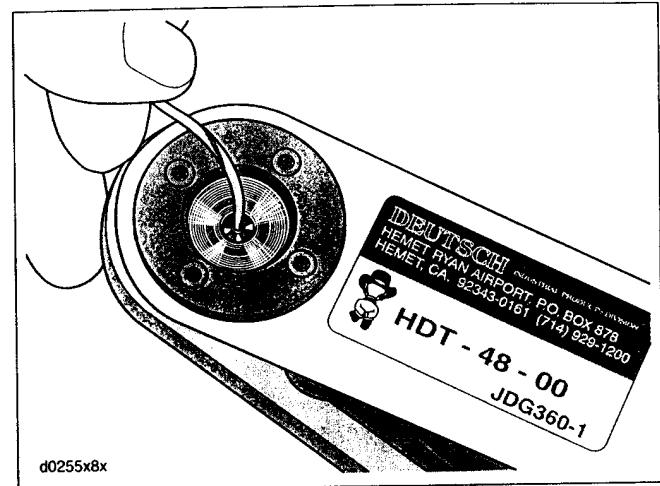

Figure B-17. Contact Barrel
9. See Figure B-17. Insert bare wire strands into contact barrel.